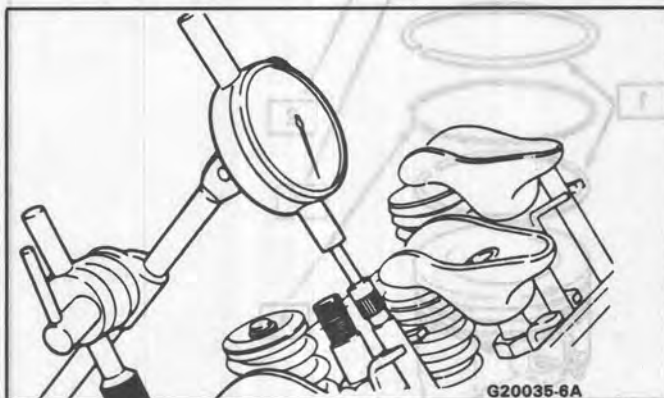

Figure 39 Measuring Cam Lobe Lift
- Attach a dial indicator with a ball socket attachment and measure the cam lobe lift (Figure 39). If any one cam lobe lift is out of specification, replace the camshaft.